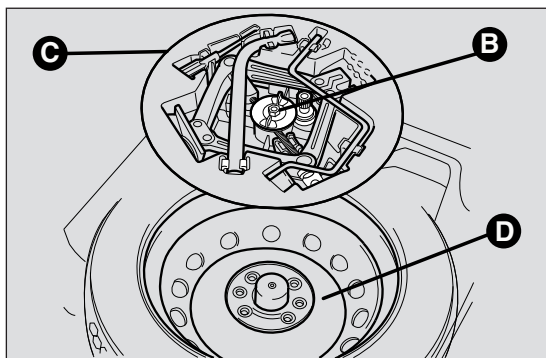

fig. 97
- ☐ loosen the fastener B fig. 97
- ☐ take out the tool box C fig. 97 and place it next to the wheel to be changed;
- ☐ take the space-saver wheel D fig. 97;
- ☐ arrange the space-saver wheel D fig. 97 in the specific compartment in the boot;